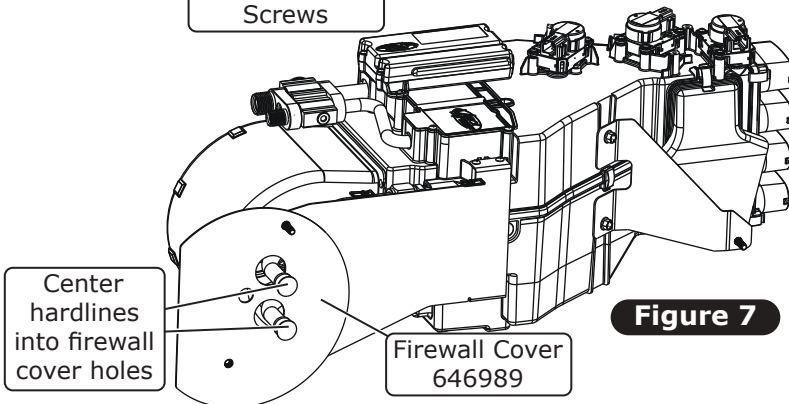

Figure 7
9. Temporarily place the firewall cover on top of the evaporator brackets, using the studs to align it, then center the hardlines into the firewall cover holes (See Figure 7, below). Once the hardlines are centered, remove the firewall cover, and tighten the hardlines. **NOTE: For additional clearance, when tightening hardlines, the evaporator bracket can be temporarily removed.**
10. Locate the evaporator dash bracket and install (2) #8 U-nuts as shown in Photo 4, below. **NOTE: Do not install the dash bracket at this time.**